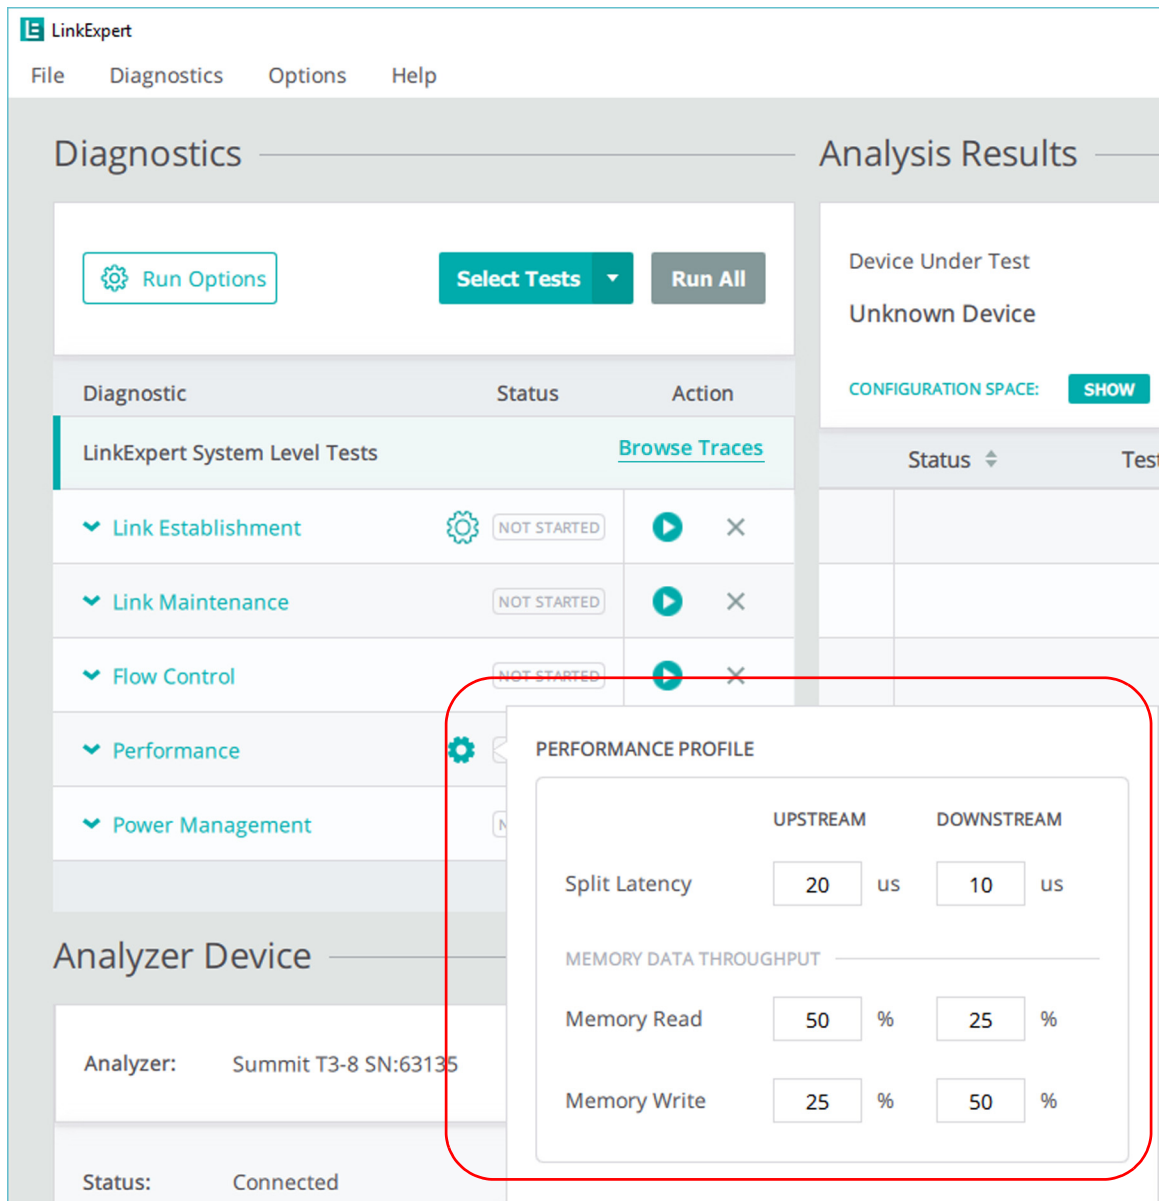

Figure 4.51: Setting Performance Parameters
4.6.4.1 Performance Setting (See Figure 4.51).